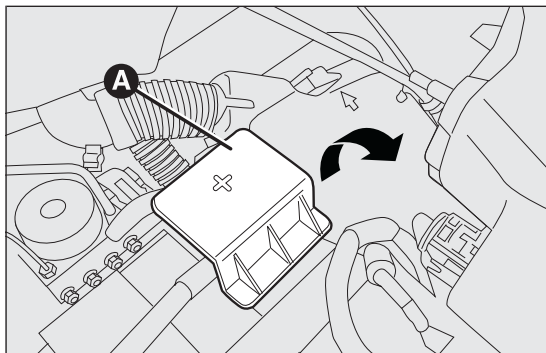

fig. 158
- ☐ remove protective lid A fig. 158 from the positive battery terminal by lifting it upwards;